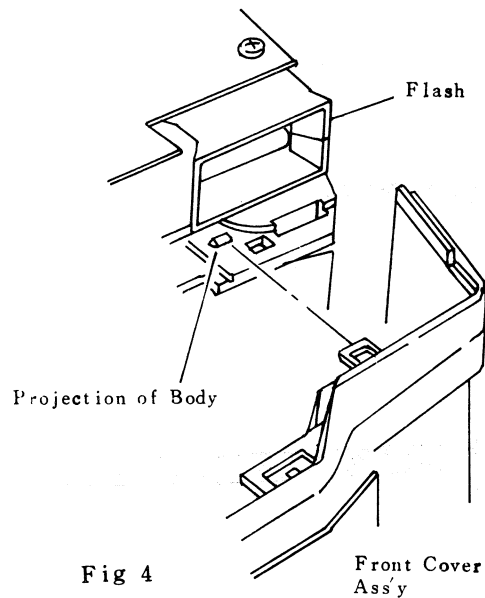

Fig 4
- 3) Push Front Cover and put Front Cover hook on projetion of Body. See (Fig 4)